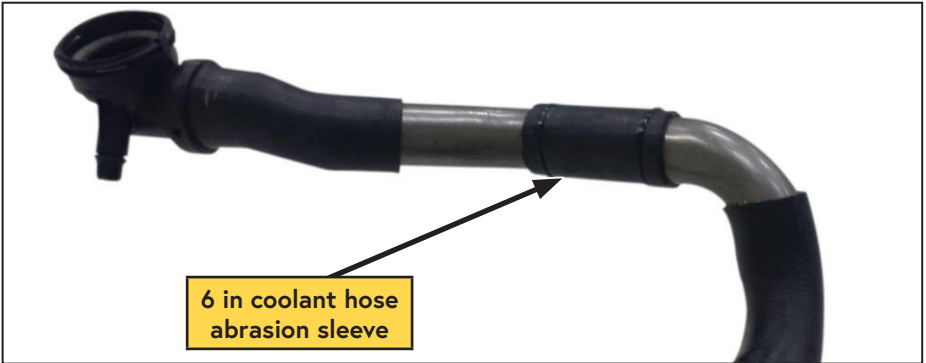

Figure 30 — Engine side anti-abrasion sleeve
- ☐ Wrap the 6 in section around the straight section of the driver side coolant tube and secure with cable ties (Figure 30).